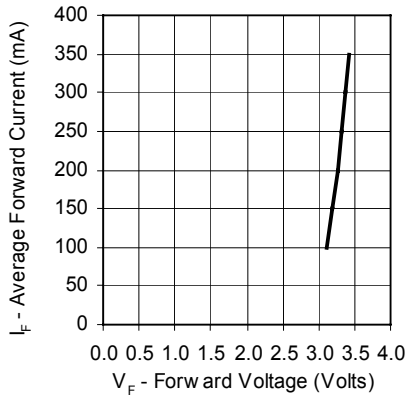

Figure 3a.
4. Dynamic resistance is the inverse of the slope in linear forward voltage model for LEDs. See Figures 3a and 3b.